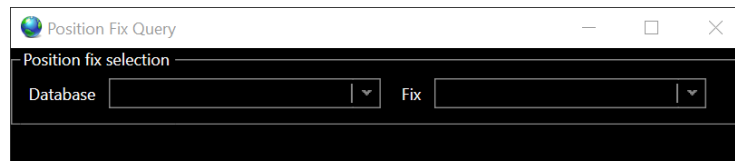

FIGURE 14-132 POSITION FIX QUERY DIALOG
1. Select Query from the Data ribbon or Explorer, this opens the Position Fix Query dialog, see Figure 14-132